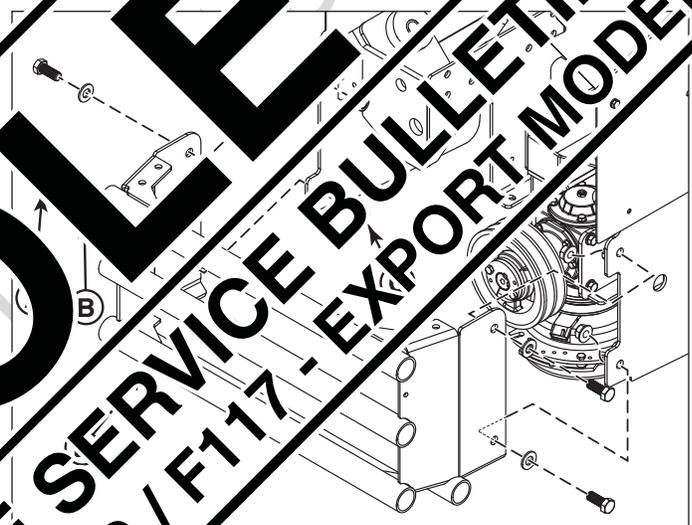

Figure 4. Remove the Rear Bumper
8. Remove the four (4) 1/2-13 X 1-1/4" bolts (**A, Figure 4**), 1/2 SAE washers (**B**), and 1/2-13 hex nylock flange nuts (**C**) that secure the bumper (**D**) to the rear of the machine. Remove the rear bumper. Discard the nuts.
17. Re-install the bumper (F, Figure 4) to the rear of the machine and secure in place using four (4) 1/2" X 1-1/4" bolts (A) and SAE washers (B) and 1/2" hex nylock flange nuts (G).
18. Re-install the rear main seal and housing (C, Figure 4), and the seal (if equipped) and secure in place using four (4) 8-16 X 1" bolts (A), and 3/8 SAE washers (B) and 3/8-16 hex nylock flange nuts (G). Also re-install the seal (if equipped) and the SAE washer (C).
20. Re-install the muffler shields (E, Figure 4) using the two (2) 1/4-20 X 1" bolts (A) and 1/4" SAE washers (B) and the 3/8-16 X 1" bolt (D), 3/8" SAE washer (E), and new 3/8-16 hex nylock flange nut (G).